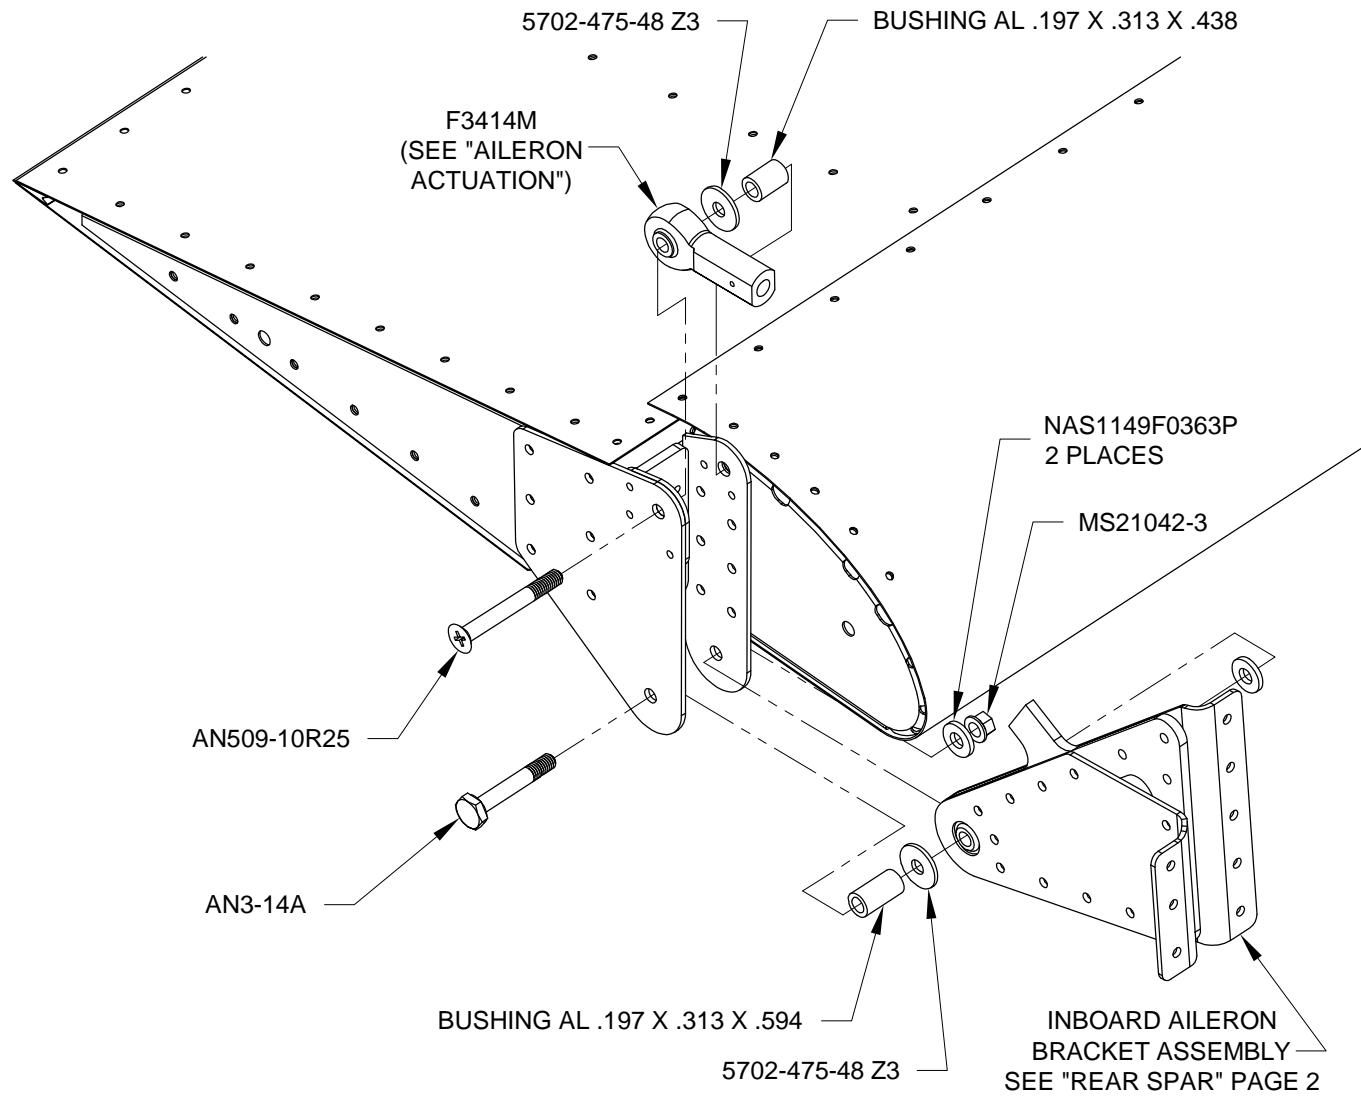

FIGURE 1: INBOARD HINGE BRACKET ATTACH HARDWARE
Remove the A-1011 Trailing Edge as shown in Figure 1.
Step 1: The hardware called-out in Figure 1 for attachment of the inboard hinge bracket to the wing will be used during completion of the aileron actuation system as covered in Section 23.